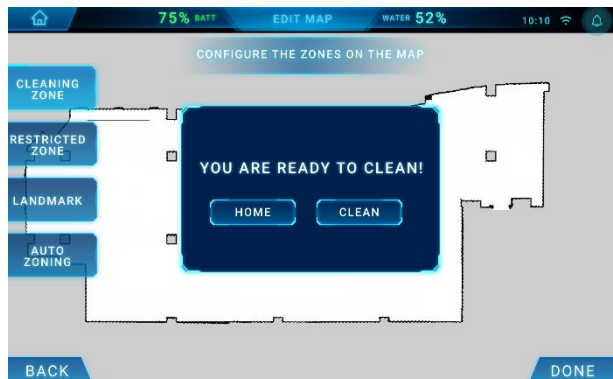

Fig 7
12. The REX is ready to clean (Fig 7).